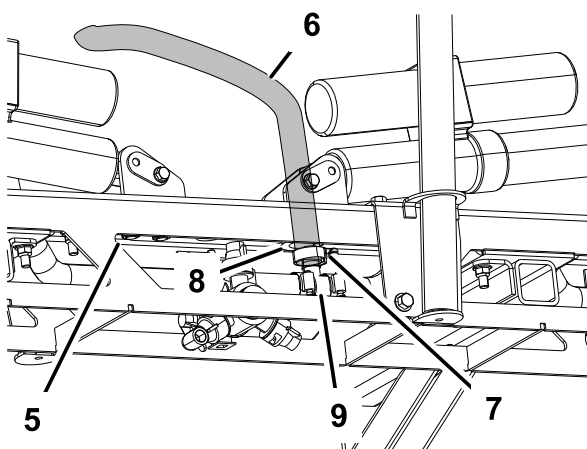

Figure 29
3. Use liquid soap to coat the hose barb of the tee connections on both extension booms (Figure 29). Install the boom extension hose over the barb and secure it with a clamp.